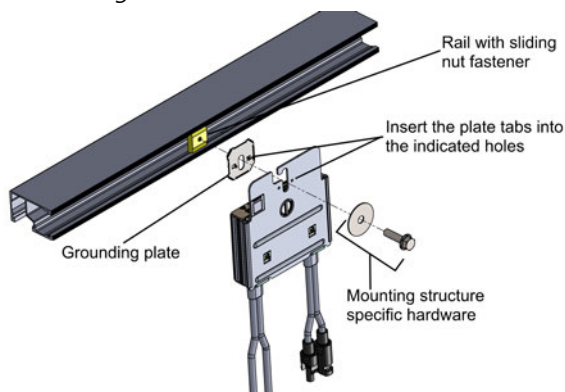

Figure 7: Power optimizer installation and grounding using a grounding plate
- **For mounting on rails with sliding nut fasteners:** If the star washer cannot be used, use the SolarEdge grounding plate (purchased separately) between the railing and the flat side of the mounting bracket. Use mounting specific hardware as needed. Apply torque of 9.5 N*m / 7 lb*ft. See *Figure 7*.